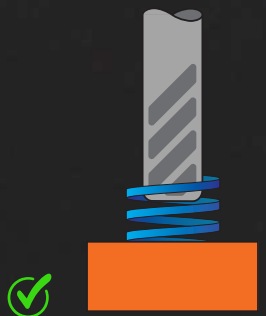

Fig. 3 - Helical Interpolation
**Helical Interpolation** - An acceptable machining method in which a cutting tool moves along a helical trajectory along an downward axial path (blue ribbon - Fig. 3) while removing material. Usually using a G02 code that permits the tool to rotate in a clockwise direction while moving in a downward spiral trajectory. Similar to what we learned in the cornering section (pp.89 - 90), the smaller the tool's programmed helical radius trajectory, the larger your tangential and centripetal velocity will be and may need feed readjusting. In steels, sometimes a lighter angle ( $<3^\circ$ ) with increased feed works well.